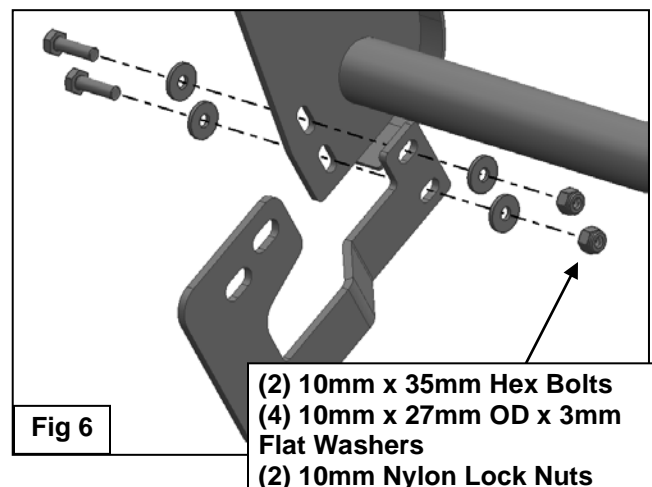

Fig 6
6. Attach the Lower Mounting Brackets to the Grille Guard with (2) 10mm x 35mm Hex Bolts, (4) 10mm x 37mm OD x 3mm Flat Washers and (2) 10mm Nylon Lock Nuts **(Figure 6)**.